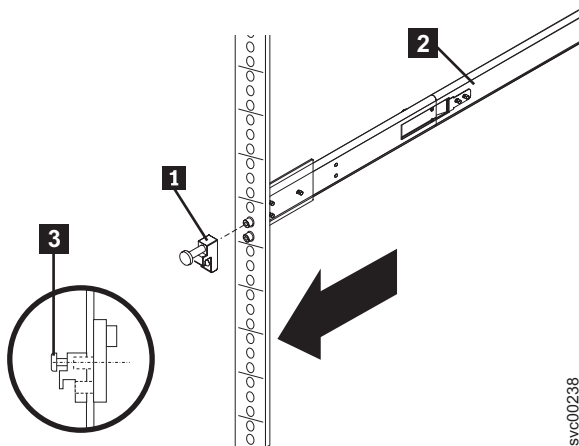

Figure 62. Attaching the latch strike to the front of the slide rail
5. Attach one latch strike **1** to the front of the right rail **2**, as shown in Figure 62, using the captive screw **3**. Turn the screw only finger tight. Attach the other latch strike to the front of the left rail in the same way.